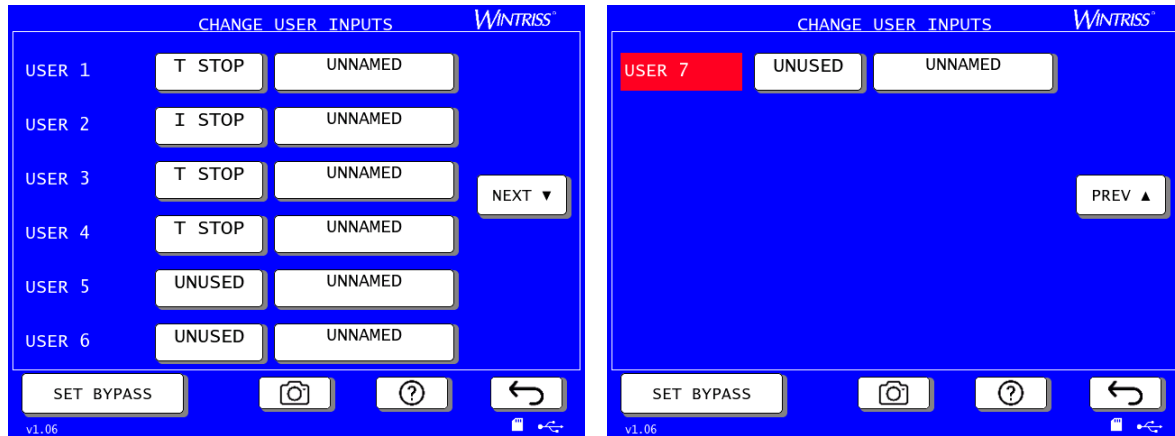
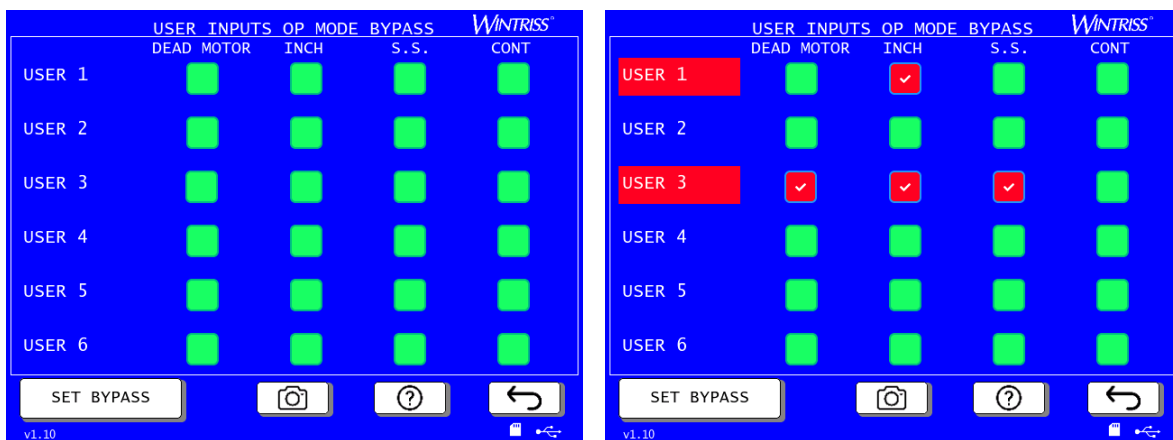

Figure 3-9. Change User Inputs Screens
Figure 3-10. User Inputs Op Mode Bypass Screen
1. On the Change User Inputs screen, Figure 3-9, press SET BYPASS. The User Inputs Op Mode Bypass screen appears, Figure 3-10.
2. The User Inputs Op Mode Bypass screen, Figure 3-10, lists the User Inputs on the left and shows four columns for operating modes: dead motor, inch, single stroke (S.S.), and continuous. Green squares indicate that the user input is operational in the mode selected.